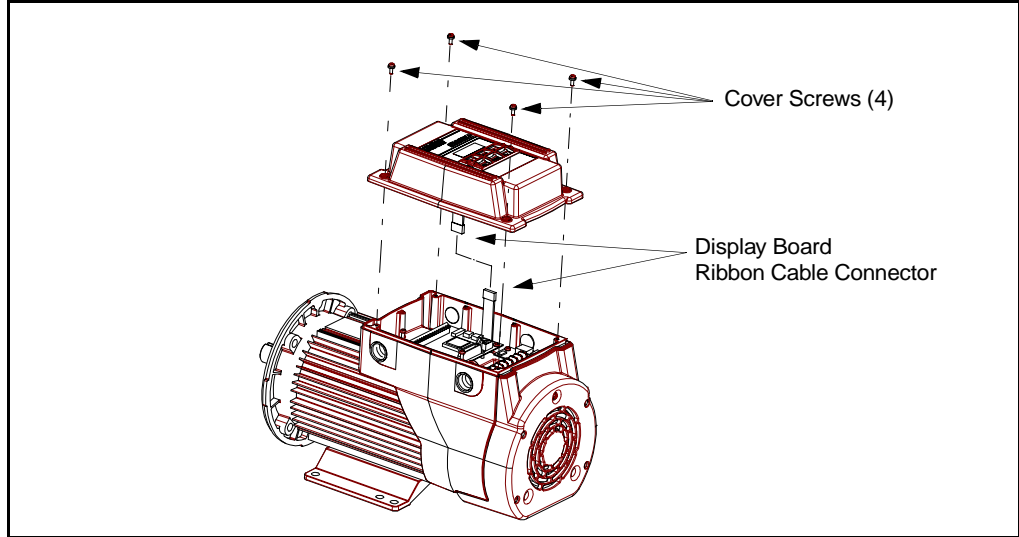

Figure 5.1 – Removing the Cover
Step 1. Remove the cover by loosening the four cover screws. Note that the display ribbon cable is designed to disconnect from the main unit when the cover is removed as shown in figure 5.1.